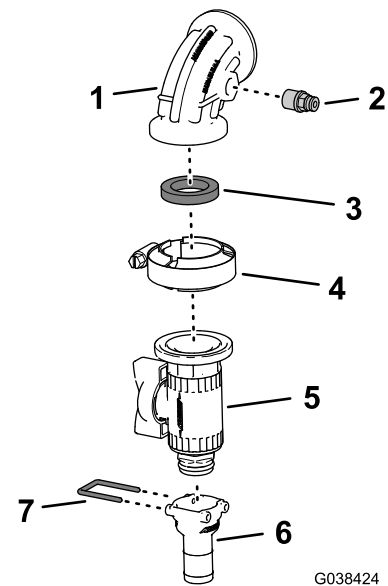

Figure 88
3. Remove the retainer that secures the straight barbed fitting (3/4 inch) to the flange shutoff valve, and remove the barbed fitting (Figure 88).
4. Assemble the tube coupler that you removed in step 2 into the pressure port of the 90° elbow (Figure 88).
5. Assemble the flanged shutoff valve to the 90° elbow (with pressure port) and gasket—25 x 35 mm (1 x 1-3/8 inches) with the flange clamp—40 to 64 mm (1-9/16 to 2-1/2 inches) as shown in Figure 88.